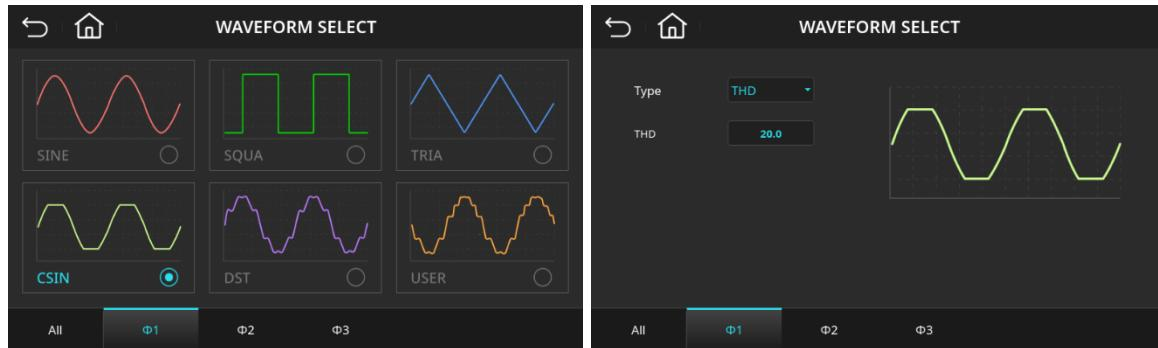

Figure 4-51: Output Waveform Selection Page (First-Phase Output Waveform ( $\Phi 1$ ) Set to Clipped Sine Wave (CSIN), THD = 20%)
6. Return to the Waveform Select page. As shown in Figure 4-51, the first-phase output waveform ( $\Phi 1$ ) has been changed to Clipped Sine Wave (CSIN) with THD = 20%.